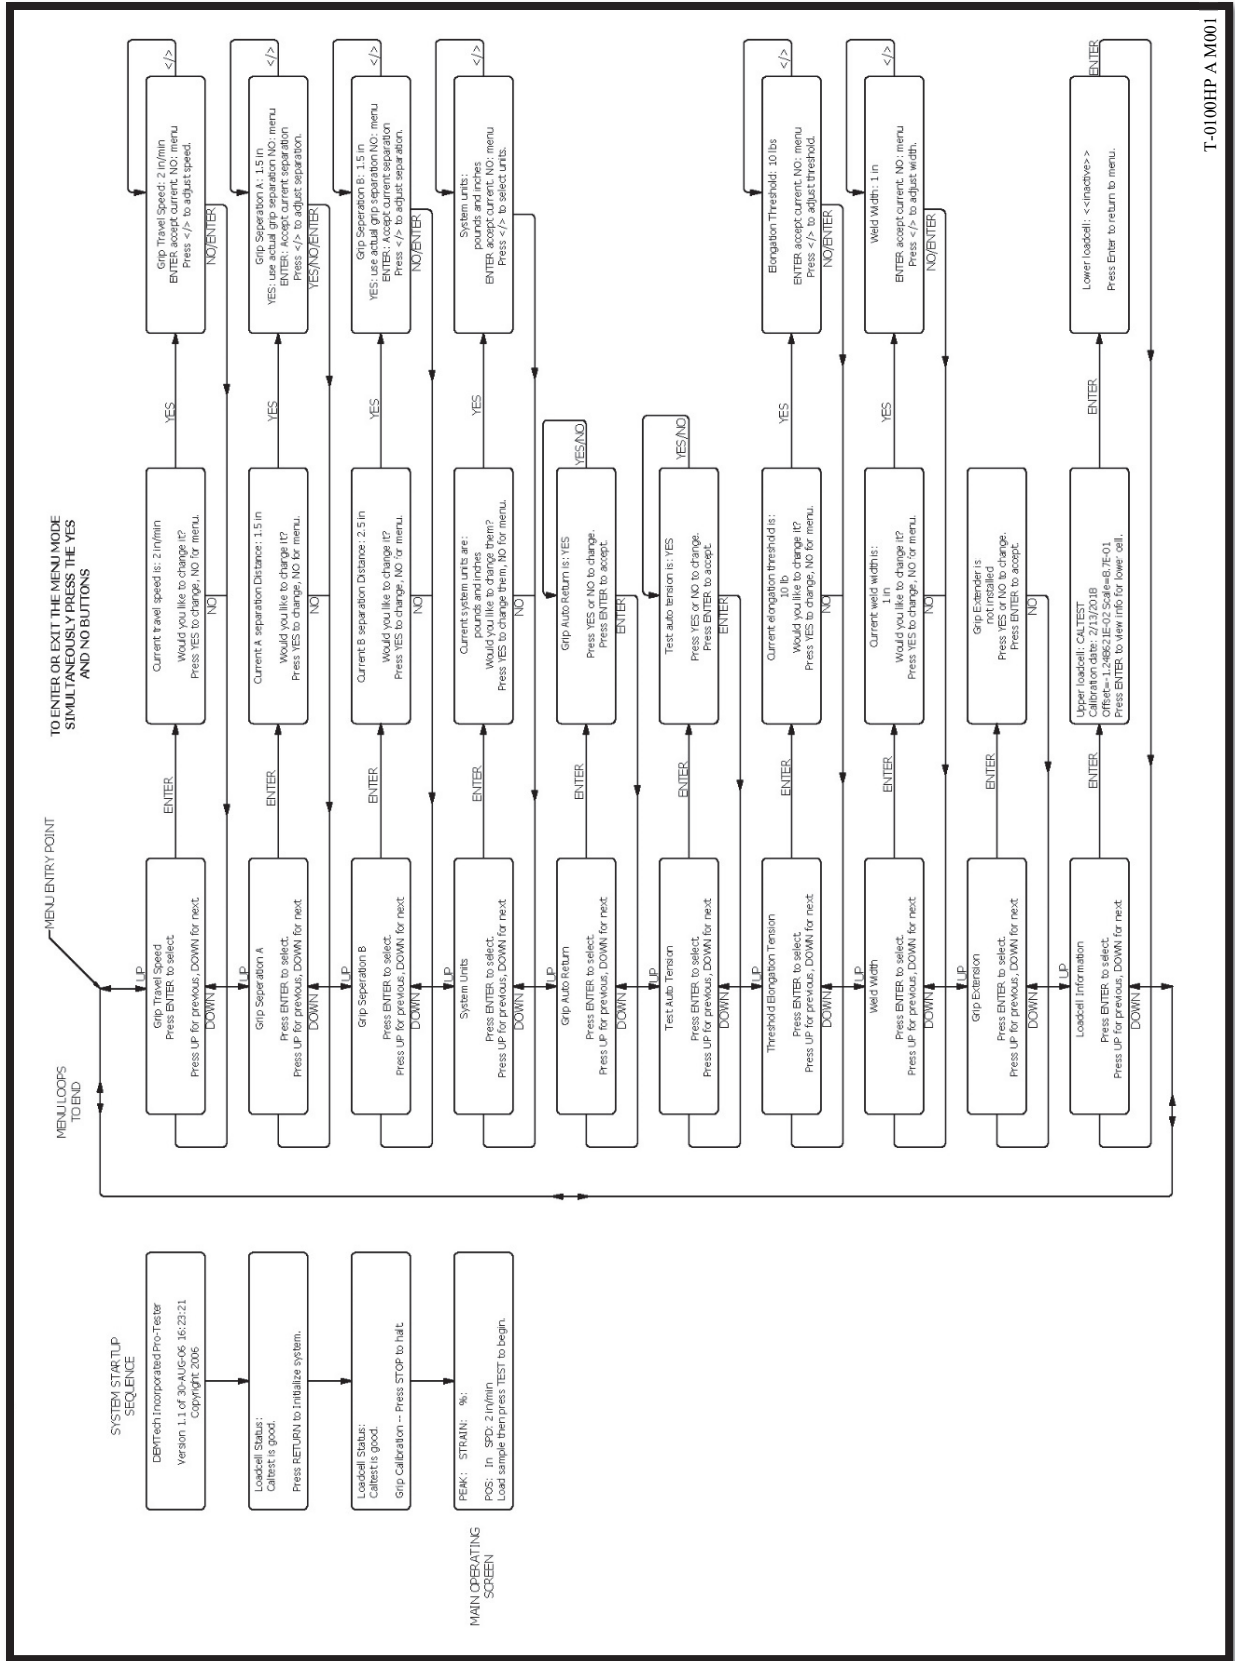

Figure 7.1
- c. Figure 7.1 on page 15 is a Menu Tree drawing. This drawing can be very helpful if you are trying to find a particular function or setting you wish to access. Use the drawing to locate the particular item you want to access. Once located, follow the tree back to the top level. Next, utilizing the user interface on the Pro-Tester™, proceed back down through the menu structure using the drawing as a guide to access the particular screen you want.